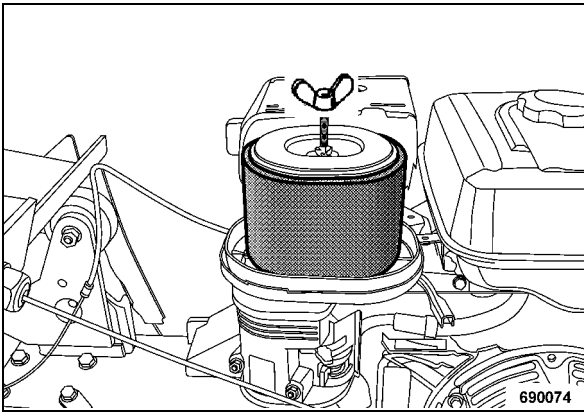

Fig. 39
- Unscrew the wing nut and take the air filter cartridge off (Fig. 39).